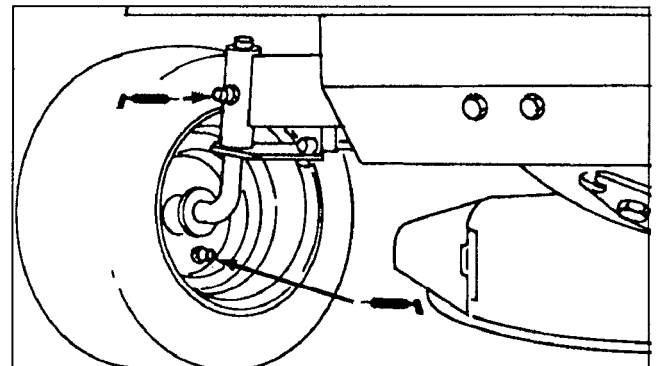

Figure 12
1. Wipe (4) grease fittings on spindles and wheels (Fig. 12) with a clean rag. If there is paint on front of fittings, scrape it off.
2. Lubricate both axle spindles w/No. 2 general purpose grease (Fig. 12). Continue to pump grease until it oozes out the spindle. Wipe up any excess grease.
3. Lubricate both front wheels w/No. 2 general purpose grease (Fig. 12). Pump grease gun until grease oozes. Wipe up any excess grease.